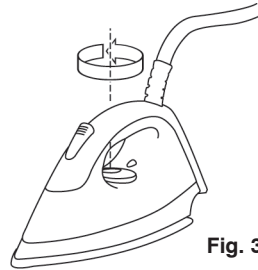

Fig. 3
- Set the desired temperature with the thermostat control (J), depending on the type of cloth to be ironed (Fig. 3).